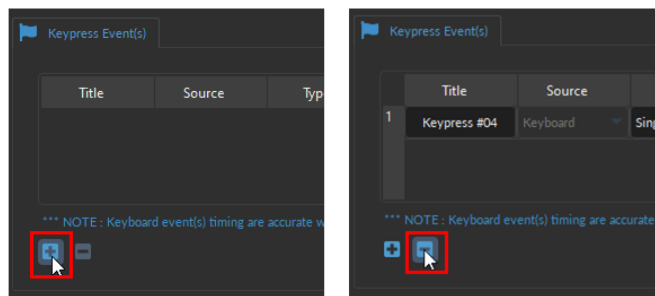

Figure 7.10: Adding and Removing Keypress Events
To add a new **Keypress Event**, select the + sign at the bottom of the window (Fig. 7.10, left). To remove a Keypress, use the - button (Fig. 7.10, right).
- **NOTE:** Selecting the + button (without clicking the *Add* or the *Close* buttons of the *Channel Configuration* window) will **automatically** add the Keypress Event channel at the **bottom** of the Acquisition View window, below the video feed (Fig.7.10).